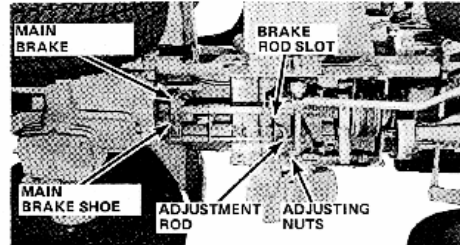

FIGURE 20
1. Depress CLUTCH-BRAKE pedal approximately two-thirds (until rear clutch flange has moved back to touch stationary plate). At that time the adjusting rod has moved up to top of brake rod slot. (See Figure 20.)
2. Exert additional pressure on pedal to move brake shoe, Figure 20, toward Main Brake drum.
4. Adjust nuts on adjusting rod to insure adequate brake shoe pressure. (See Figure 20.)